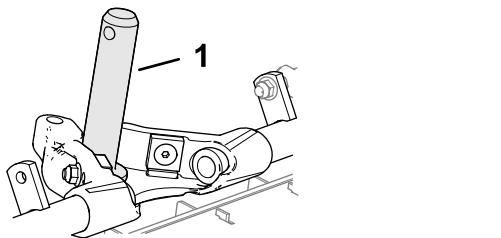

Figure 25
2. Coat the carrier-frame shaft with clean grease (Figure 25).